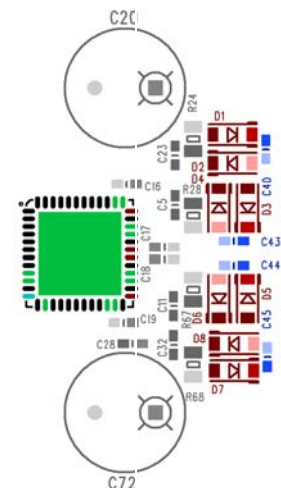

Figure 6. Diode Placement
A pair of Schottky diodes are required on each of the 4 switching outputs. **These diodes (D1 - D8) should be placed immediately after the RC snubber networks.** The closer to the CS4525 the diode pairs are placed, the more effective they will be. If these diodes are placed too far from the CS4525 they may not be able to protect the switching outputs properly and risk damage to the device. A high side (OUTx to VP) and low side (OUTx to GND) Schottky protection diode are used for each switching output (OUT1 - OUT4). The input pads of the high and low side diode should be lined up, as shown in Figure 6, so that they will end up residing on top of the traces similar to the capacitor pads on the RC snubbers during layout and routing.
**C40, C43, C44, and C45 (shown in Figure 6) should be placed so that they are adjacent to each protection diode pair's GND and VP connections.** These diode pair capacitors are used to reduce ringing that can be created by the protection diodes. The protection diodes can switch on and off very quickly after